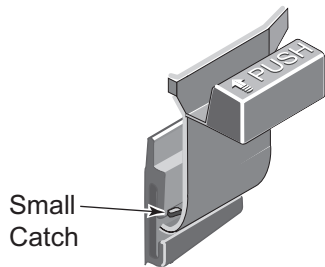

Figure 7 – Safety Latch
### SAFETY LATCH (See Figure 7)
1. Press down on the small catch behind the safety latch and press or tap the latch out of the “Tee” slot in the tank (see Figure 7).